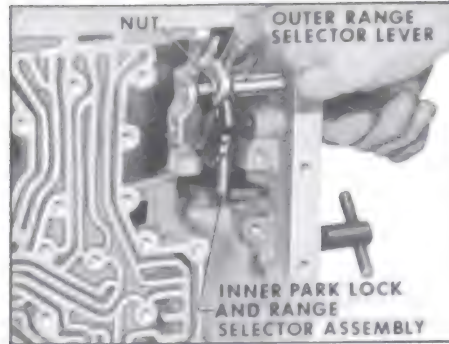

Figure 5-291
7. Slide outer range selector lever into case and tighten nut using a 9/16" wrench. See Figure 5-291.